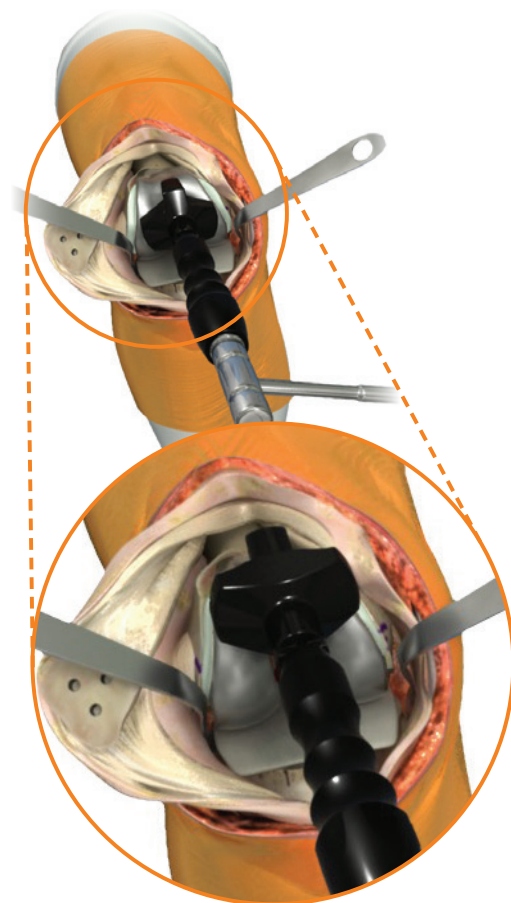

Figure 29a
5. Place the Femoral Implant onto the femur and use the Modular Femoral Impactor to fully seat the implant. Remove excess cement. Extend the knee to remove cement anteriorly without retracting the proximal soft tissue (Figure 29a).